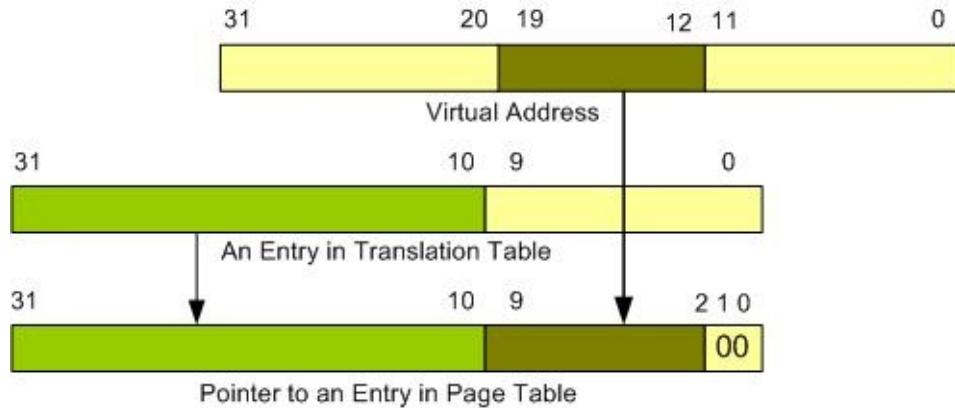

Figure 15-3: Accessing Page Table
- b) A19–A12 (8 bits total) of the virtual address are used to point to one of the page table entries. Since the middle 8 bits of the virtual address point to the entry in the second-level page table directory, there can be 256 page directories ( $2^8 = 256$ ). Figure 15-3 shows how A19–A12 (8 bits total) of the virtual address and the upper 22 bits of translation table descriptor are concatenated to produce pointer to an entry in the page table.
Let's assume an ARM chip has the TLB with 64 entries. That means the TLB inside the CPU keeps the list of addresses for the 64 most recently used pages, which allows the CPU to have instant access to 256K bytes ( $64 \times 4K = 256K$ ) of code and data at any time without going through the time-consuming process of converting the virtual address to a physical address (two levels of table-walking). See Figure 15-3. The 64 TLB entries use  $64 \times 32\text{-bit}$  of SRAM since the addresses are 32-bit in ARM. Therefore, one way to avoid the process of virtual-to-physical address translation (to maximize TLB hit) is to increase the number of pages held by the TLB. Then, the question is why not have 1024 entries for TLB and have instant access to 4M bytes ( $1024 \times 4K = 4,096K = 4M$ ) of code and data? The problem is searching for the 1024 entries takes time even if we have a very fast comparators and that defeats the purpose of TLB. Also using 1024 entries TLB needs  $1024 \times 4$  bytes = 4096 bytes of SRAM inside the ARM. With 64 entries TLB we only need  $64 \times 4$  bytes = 256 bytes of SRAM. Obviously larger TLB is more expensive. So some vendor of ARM CPUs might use 2-way or 4-way set associative with 32 entries to reduce the occurrence of page fault, that is to reduce virtual-to-physical address translation time (table-walking). See the reference manual for vendor of your ARM chip for TLB size and its associativity. Also see cache memory chapter for explanation of n-way set associative concepts. See Example 15-1